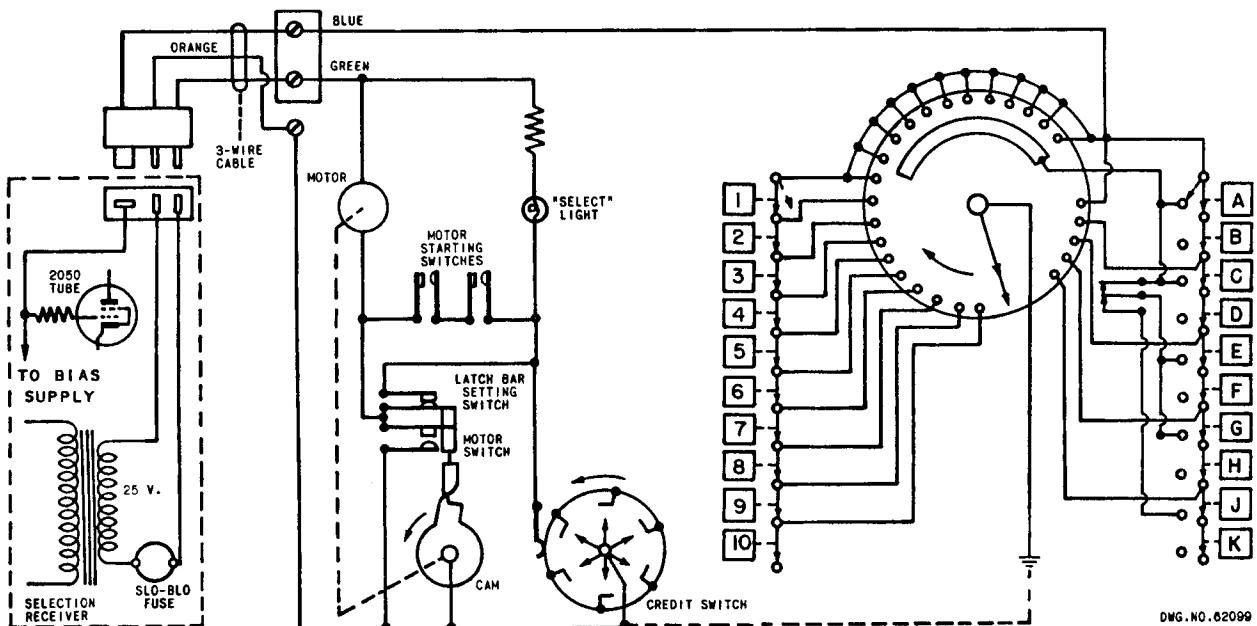
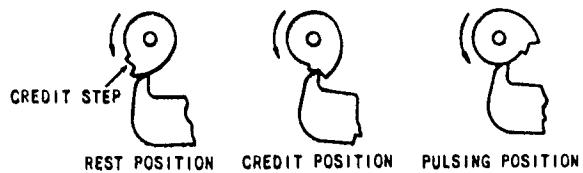

FIG. 2. SIMPLIFIED SCHEMATIC - 3W-1.
FIG. 3. CAM POSITIONS.
group solenoid of the Solenoid Assembly so they will be energized. This operation is dependent on the number of pulses and the intervals of time between them. Two series of pulses are required -- a first series for the selection of a selector coil circuit and a second series for selection of a group solenoid. The number of pulses in each series is determined by which Wall-O-Matic selection switches are pressed. There will be from 2 to 21 in the first series and from 1 to 5 in the second series. The rate of the pulses and the time interval between them is determined by the design of the Wall-O-Matic and the motor speed. This interval between individual pulses in both series is approximately 1/25 second and an interval of approximately 1/5 second occurs between the last pulse of the first series and the first pulse of the second series. A simplified circuit diagram of the connection of the selection circuit is shown in Figure 2.
In the Rest Position, the selector Buttons are free to move in and out, the Latch Bar Setting Switch shown in Figures 2 and 4 is closed, and the Credit Switch is open. When a coin is deposited to establish credit, a coin switch is closed momentarily to energize a credit solenoid. The credit solenoid, in turn, operates a plunger which closes one of six snap-action switches on the credit switch assembly. The closed credit switch completes a circuit to the credit indicating light and, through the latch bar setting switch, to the motor. The credit light illuminates the "Select" escutcheon in front of and below the program holder. The motor, operating through a train of gears, turns a cam until the latch bar setting switch is caused to open by the latch bar lever dropping to the "credit step" of the cam. These positions of the cam and lever are shown in Figure 3.
On each of the selection switch assemblies -- the "letter switches" and the "number switches" -- is a Motor Starting Switch. The contacts of the motor starting switches are closed by a treadle bar which is actuated by a selection switch shaft when a selector button is pressed. The two switches are connected in series in the motor circuit so that, when a letter button and a number button are pressed, the motor again starts. The motor turns the cam so the latch bar lever drops from the credit step to the Pulsing "Position" as shown in Figure 3. In this position of the cam and lever, the latch bars are moved to a position which locks the selection switches in position -- pressed in or in normal position -- and the Motor Switch (Figures 2 and 4) is closed. This pulsing position prevails for almost a full turn of the cam. As the cam approaches its rest position, the latch bar lever is raised so the motor switch opens, the latch bar setting switch closes, and the latch bar lever moves the latch bars so the selector buttons are released to their normal positions.
- Turn the motor manually until the latch bar lever drops to the credit step of the cam then reverse the direction until the point of the lever is against the vertical part of the cam as shown in Figure 3.
The selection switches have three conditions of operation corresponding to the three positions of the cam shown in Figure 3 and 4 and are operated by the cam through mechanical linkage. In the rest position, the switch latch bars are held against the pressure of the latch bar springs so the selector buttons are free to move in and out and will not stay in the pressed-in position. In the credit position the bars are released to a position which permits a selection switch, when pressed, to latch in the operated position but, if another switch is operated, the first will be released. In the pulsing position the latch bars are fully released so the selection switches are locked in either the normal or pressed positions.
1. Place the cam in the Credit Position (Figure 3).